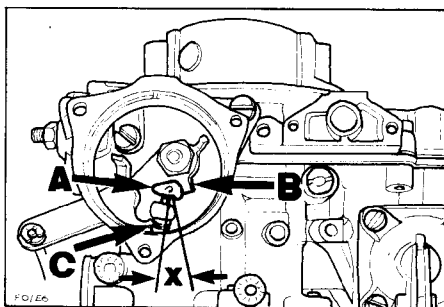

Fig. 5 Choke phasing adjustment
- With choke plates held in pull down position fast idle screw (C, Fig. 5) should have a small operating clearance 'X' from high cam, stop. If necessary adjust by bending tab (B) on lever.